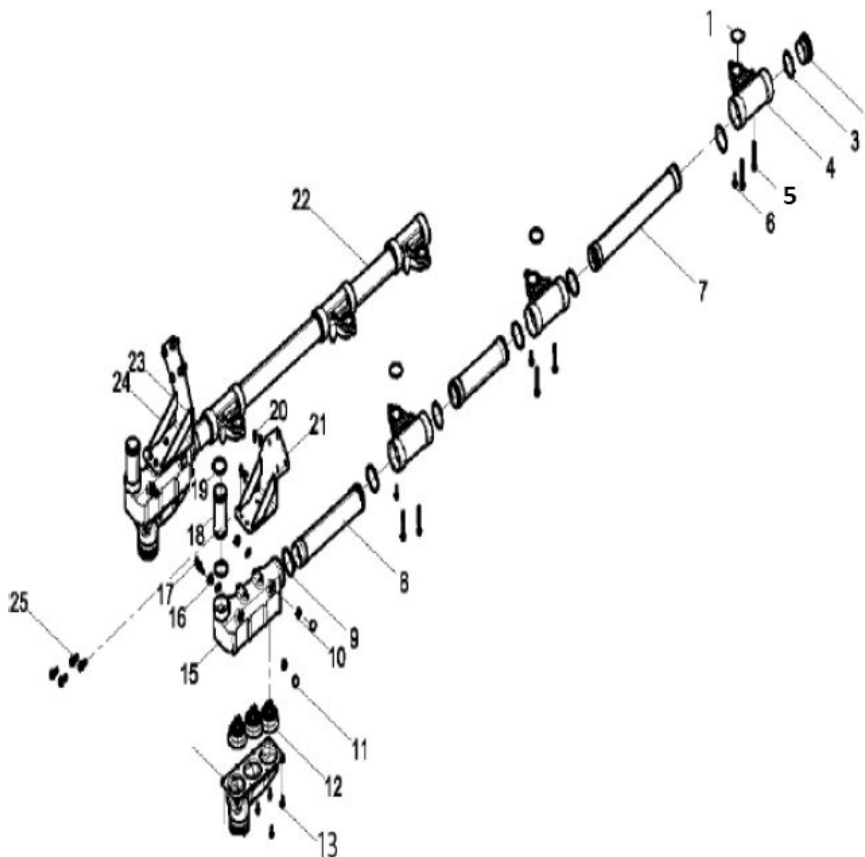

Figure 146. Thermostat Assembly
3. Remove the four bolts (Figure 146, Item 13) from the bottom of the thermostat housing (Figure 146, Item 15).
4. Remove the three bolts (Figure 146, Item 6) from each section of the water pipes (Figure 146, Item 7).
5. Remove the eight bolts (Figure 146, Item 20) from the top of the thermostat housing (Figure 146, Item 15).
6. Remove the thermostats (Figure 146, Item 12).
1. Install the thermostats (Figure 146, Item 12) onto the thermostat housing (Figure 146, Item 15).
3. Place the thermostat housing (Figure 146, Item 15) onto the bracket and tighten the bottom four thermostat housing bolts (Figure 146, Item 13).
4. Tighten the eight bolts (Figure 146, Item 20) from the top of the thermostat housing (Figure 146, Item 15).
6. Connecting all water pipes (Figure 146, Item 7) with new seals (Figure 146, Item 3) and torque down the three bolts (Figure 146, Item 6) from each section of the water pipes (Figure 146, Item 7).